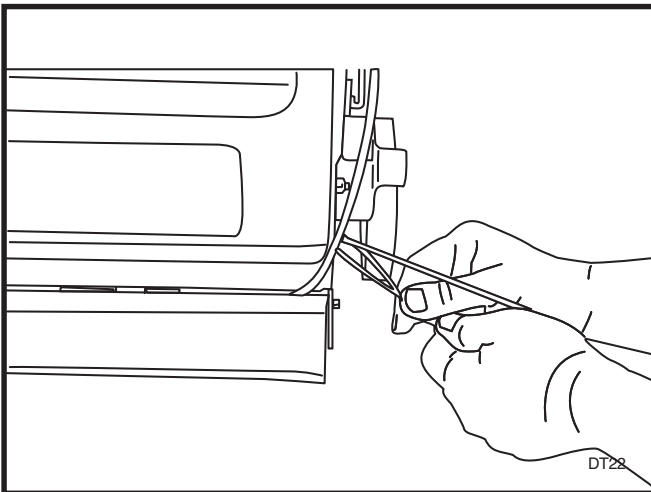

FIGURE 4
11. Using two (2) wire ties attach cable to the frame. See Figure 4.